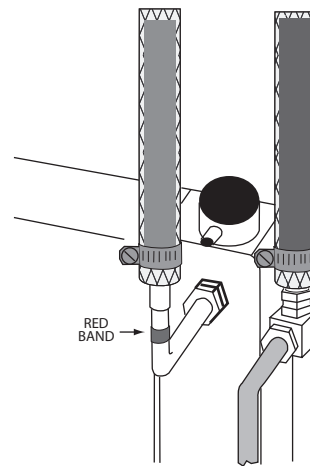

Figure 46. Attach Service Adapter Hoses
- Attach service adapter hoses to each fitting as shown in Figure 46.